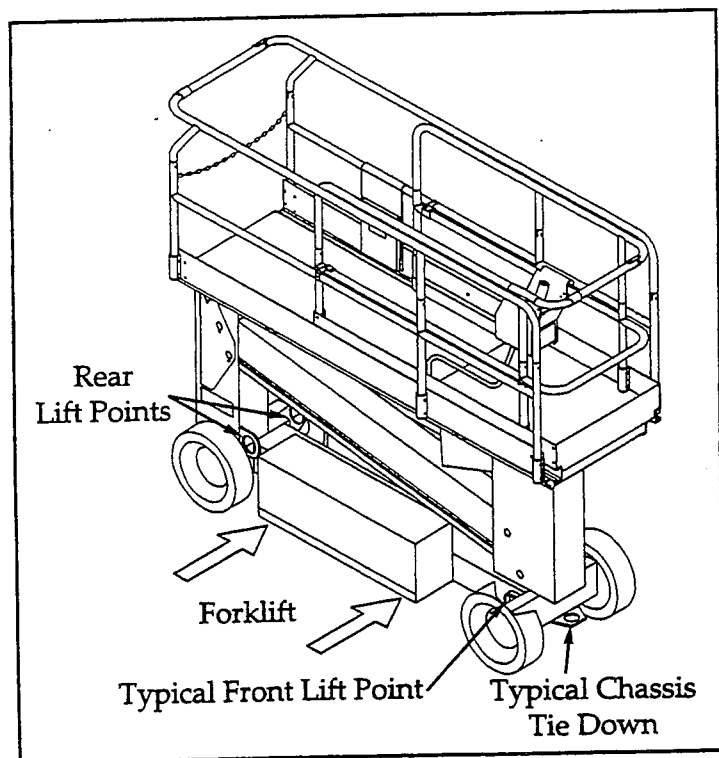

Figure 2-2: Transporting the SL20
Forklift from the side by lifting under the chassis modules (Figure 2-2).
Secure straps to chassis lift points **only** (Figure 2-2).
2. Secure the work platform to the transport vehicle with chains or straps of adequate load capacity attached to the chassis tie down lugs (Figure 2-2).